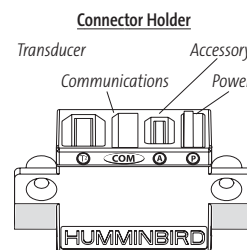

Figure 9
1. Insert both the power and the transducer cable plugs into the connector holder. The cable plugs are labeled, and there are corresponding labels on the connector holder (Figure 9). The slots for the plugs are keyed to prevent reverse installation, and insertion should be easy - do not force plugs.